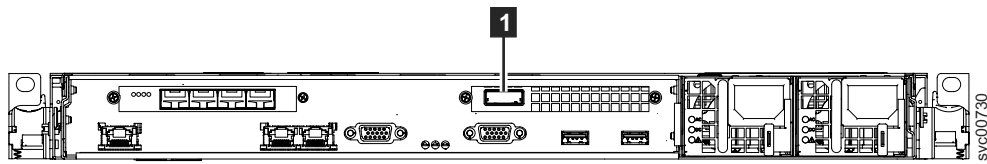

Figure 21. SAN Volume Controller 2145-CG8 port not used
- | Figure 21 shows the one port that is not used during service procedures or normal use.